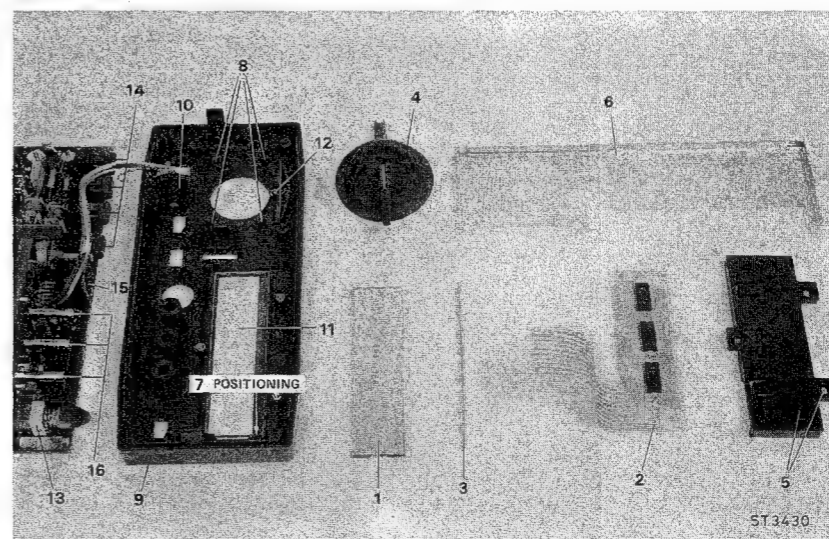

Fig. 44. Front assembly
2.2.1. Liquid crystal display (fig. 44 item 1), display unit N3 (fig. 44 item 2), interconnection rubber (fig. 44 item 3) or function knob (fig. 44 item 4).
- Remove the six screws and the screening plate of the front assembly. (fig. 44 item 6).
- Remove the function knob by bending out the four hooks of the front plate. (only for replacing the function knob) (fig. 44 item 8).
- Remove the three screws from the display unit cover and the cover itself. (fig. 44 item 5).
NOTE 1: Make sure that the L.C.D., the display unit cover and the interconnection rubber are placed in the most right hand position. (fig. 44 item 7).